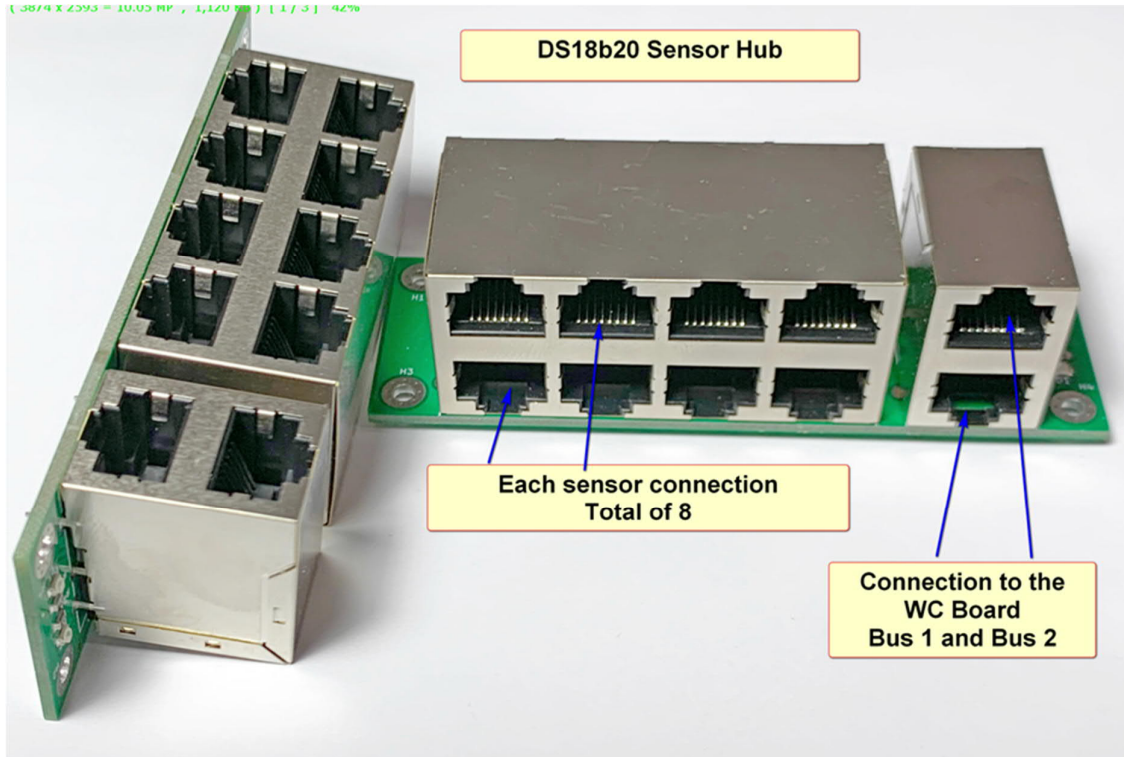

Figure 4.4
- 4.3.6.3. At the manifold end connect the Temperature sensor cables to the Sensor Hub See Figure 4.4